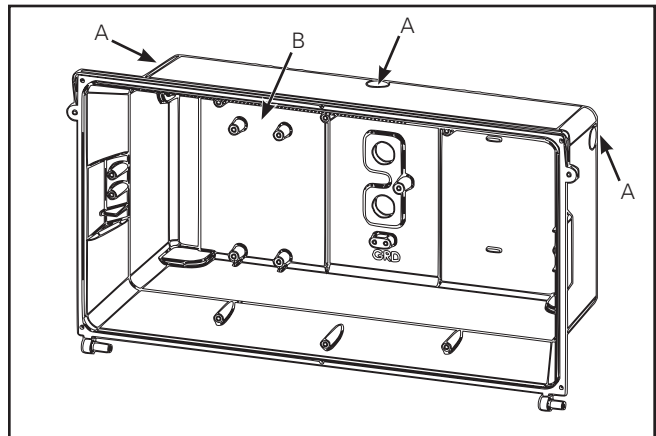

Figure 3.
2. Prepare the back plate for mounting by drilling or knocking out the appropriate holes. (Figure 3.)